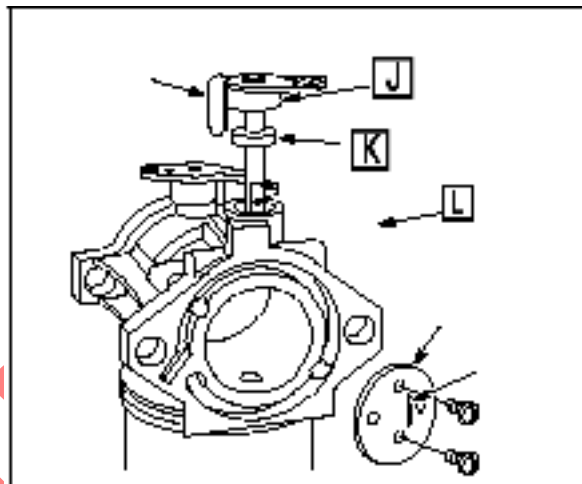

Fig. 143
Turn throttle shaft until flat (L) Fig. 143) is facing out.